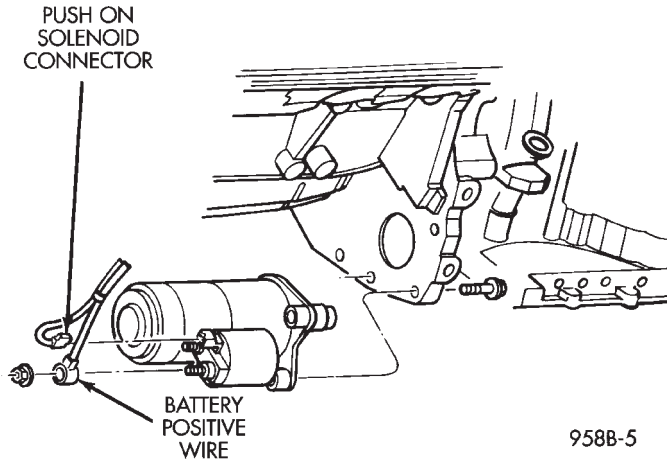

Fig. 9 Wire Terminal Connection – 2.5L Engine
- (2) Raise vehicle.
- (3) Remove oil filter.
- (4) Remove battery positive cable nut from starter and remove cable (Fig. 9).
- (5) Disconnect push on solenoid connector.